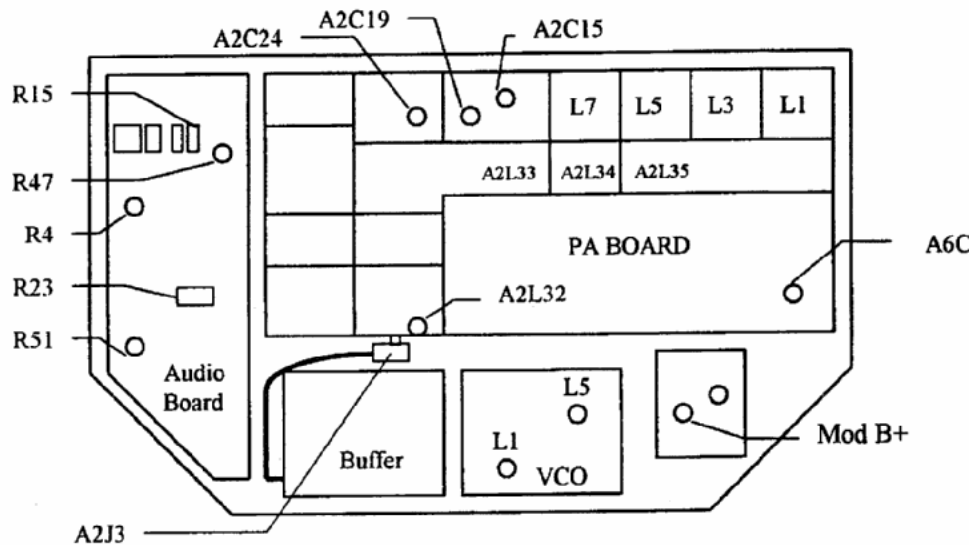

Figure 2
- 4.1.11. Monitor the AGC voltage at R15 (see figure 2) on the audio board.